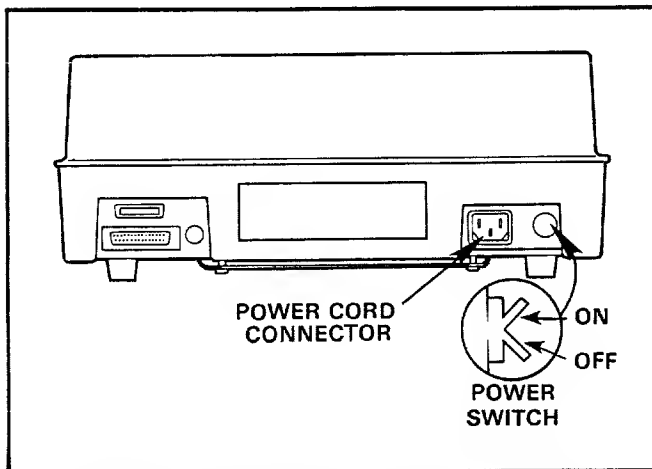

Figure 3-3. Programmer Power Switch Location
3. Lift the power switch up to the ON position (see figure 3-3).
3. Push the power switch down to the OFF position (figure 3-3).